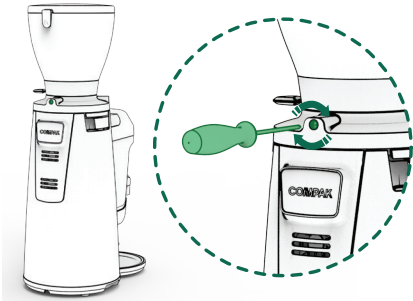

Fig. 2
Lock the hopper (2) in place using a phillips head screw driver to gently tighten the hopper security screw making it match to the hole at the bean hopper collar (3) (Fig. 2).